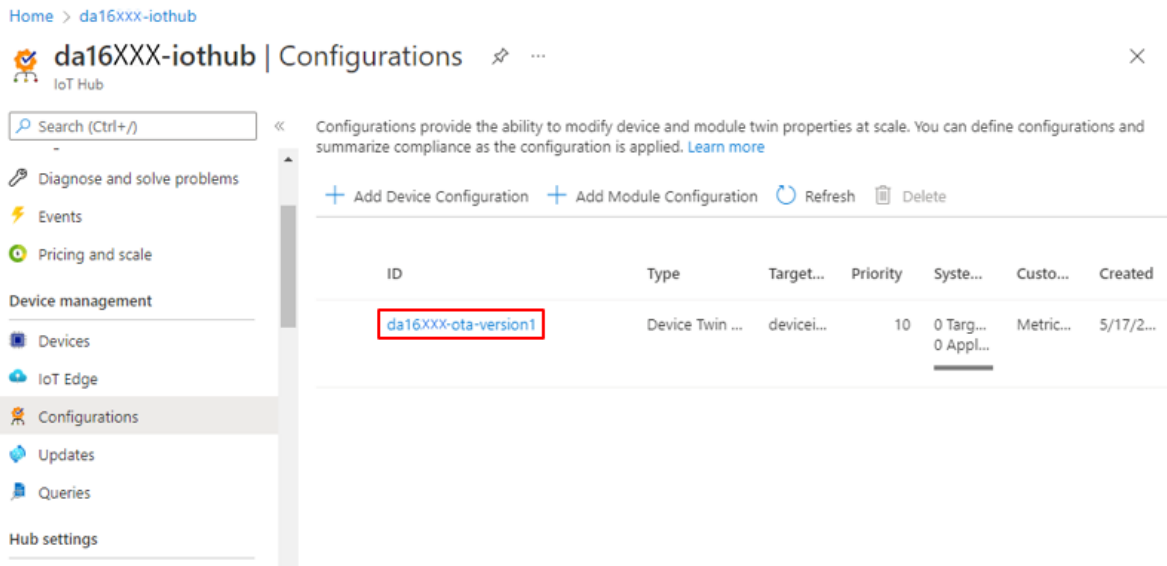

Figure 81: Created Device Twin Configuration
- The created configuration is shown in Figure 81.